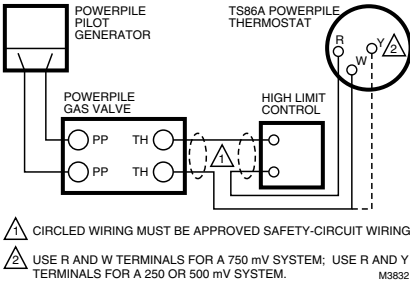

Fig. 4. Typical Powerpile millivolt system hookup.
1. *Never use any source of power other than a self-powered millivoltage pilot generator system. Refer to Fig. 4. Connect a 750 millivolt system to R and W terminals at wallplate. Connect a 250 or 500 millivolt system to R and Y terminals at wallplate.*
All wiring must comply with local codes and ordinances for wire size and voltage. See Fig. 4 for typical millivolt hookup.